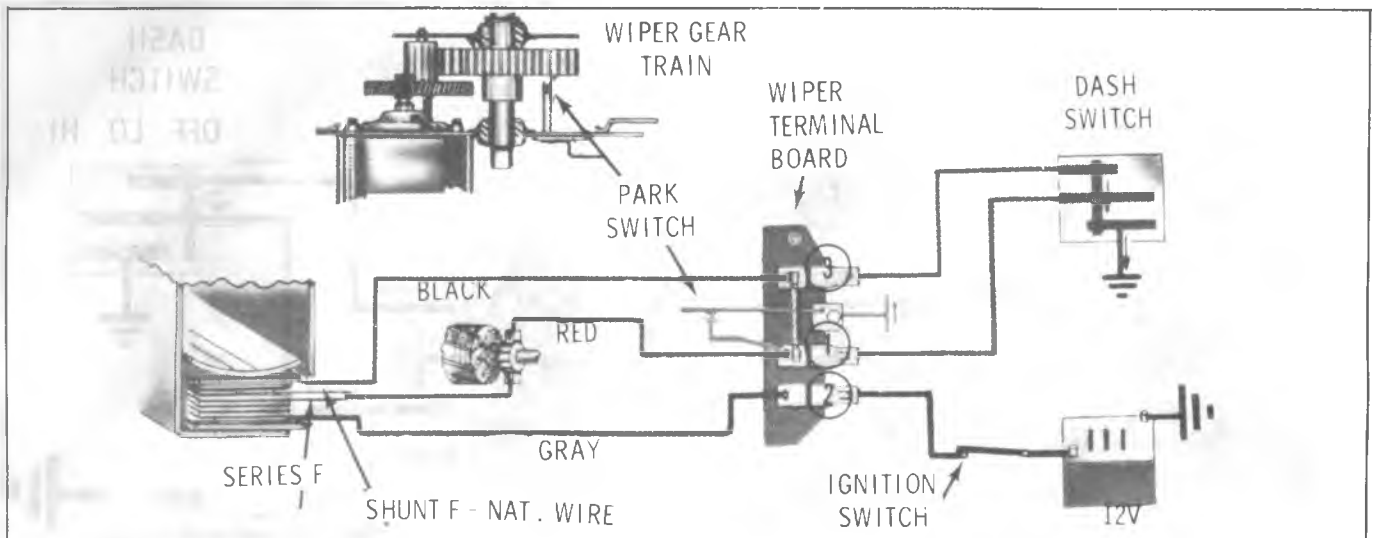

Fig. 8-39-LO Speed Circuit
No. 1 to the wiper switch and (2) the second part passes through the shunt field to ground through wiper terminal No. 3 to the wiper switch (fig. 8-39).